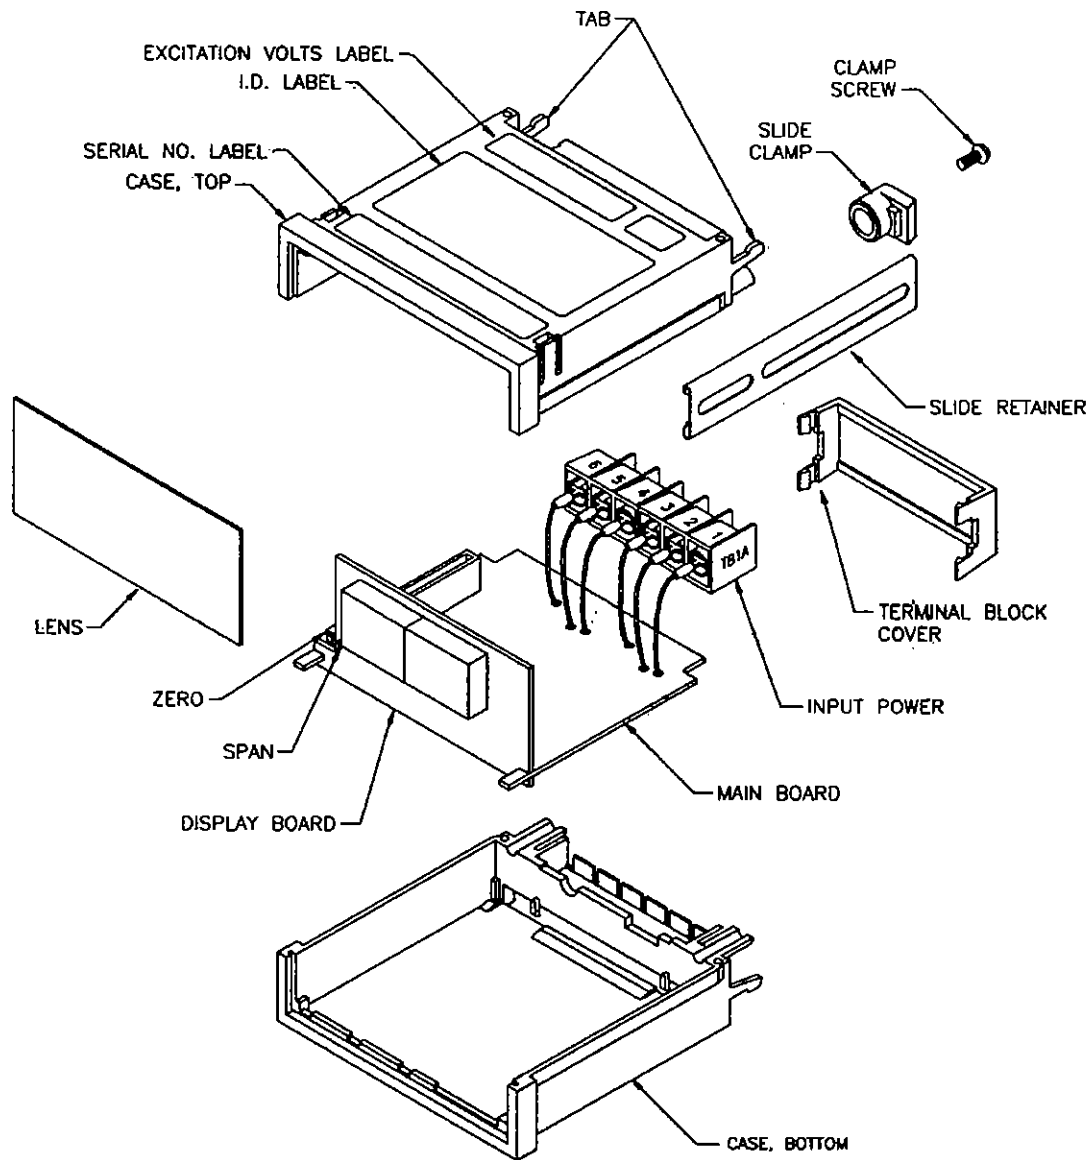

Figure 3-2 Exploded View
2. Refer to Figure 3-2 for the location of the zero and span adjustments. Adjust R32 (Zero) to the desired low reading ± 1 count.